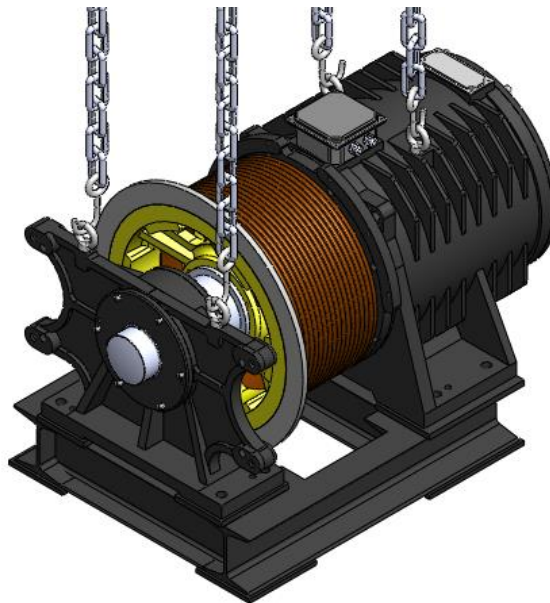

Figure 91: Lift machine to foundation
11. Use the lifting device to take the machine to the frame foundation. See Figure 91.